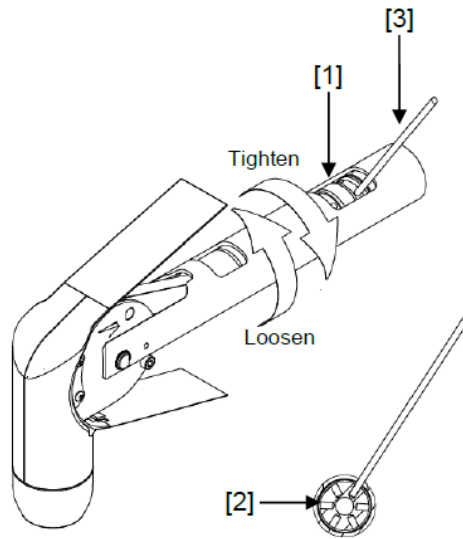

Figure 26: Spring Arm Load Adjustment
5.4.2. **Load Adjustment.** Refer to Figure 26 from OASYS Manual 4041013 listed below.
In order to carry out load adjustments, observe the following instructions (refer to Figure 26):